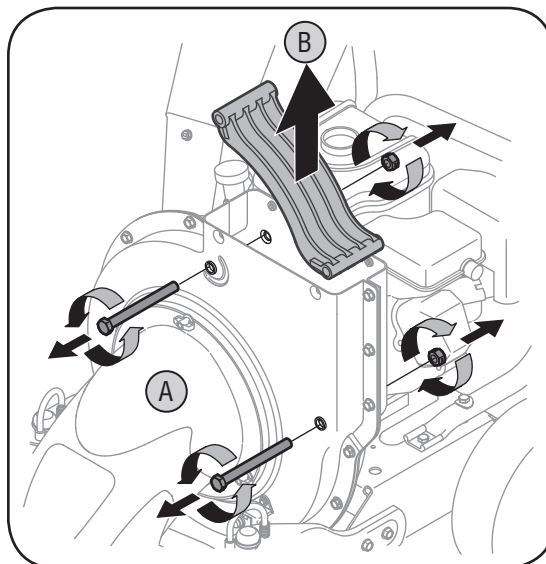

Figure 12
- b. Lift the flail screen from inside the housing. See Figure 12.
9. Remove the two hex bolts and hex lock nuts which extend through the housing. Lift the flail screen out of the housing. Refer to Figure 12.